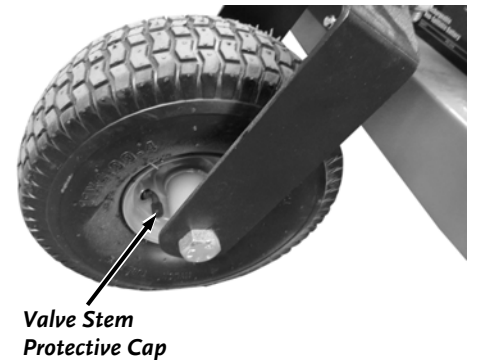

Figure 24
1. Remove the Valve Stem Protective Cap (**Figure 24**) and check the tire pressure with a Tire Pressure Gauge.
Note: *Figure 24 shows the fixed rear Wheels. Use the same procedure for the front Caster Wheels.*
Note: Close the Fuel Shut-Off Valve when transporting or storing the TOW-BEHIND DR FIELD and FINISH MOWER (**Figure 24**).